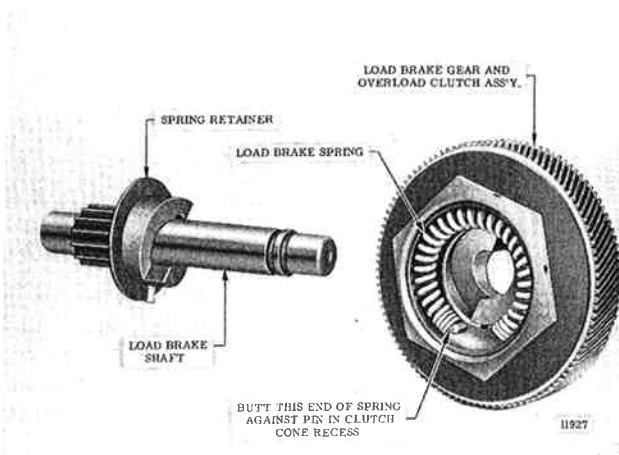

Figure 7-24. Load Brake Gear and Overload Clutch Assembly Removed from Load Brake Shaft Showing Brake Spring Installed in Clutch Cone.
(3) Remove load brake gear and overload clutch assembly from output pinion shaft. Pull the spring from its recess in clutch cone (fig. 7-24) but do not further disassemble gear and clutch assembly. See "NOTE" below.
**NOTE:** Disassembly of the load brake gear and overload clutch assembly (fig. 7-24) is not recommended. Clutch pressure is preset by the factory at assembly to provide the correct torque to allow the clutch to refuse loads within a specified range (110% of rated load to 180% rated load). It is suggested whenever there is a need to repair or readjust the gear and clutch assembly that it be sent to an authorize **BUDGIT** Hoist Repair Station where adequate tools, fixtures and appropriate test equipment is available.
(1) Before assembly, all parts should be cleaned and inspected to determine their serviceability. Replace parts that are excessively worn or damaged.
(2) Reassemble load brake parts following a reverse procedure of the disassembly steps listed above, observing the assembly steps (3) thru (6) below.
(3) Before installing spring in its recess in center of clutch cone (fig. 7-24) apply a good grade of ball bearing grease to inside of recess. Spring must be positioned exactly as illustrated, abutted against pin.